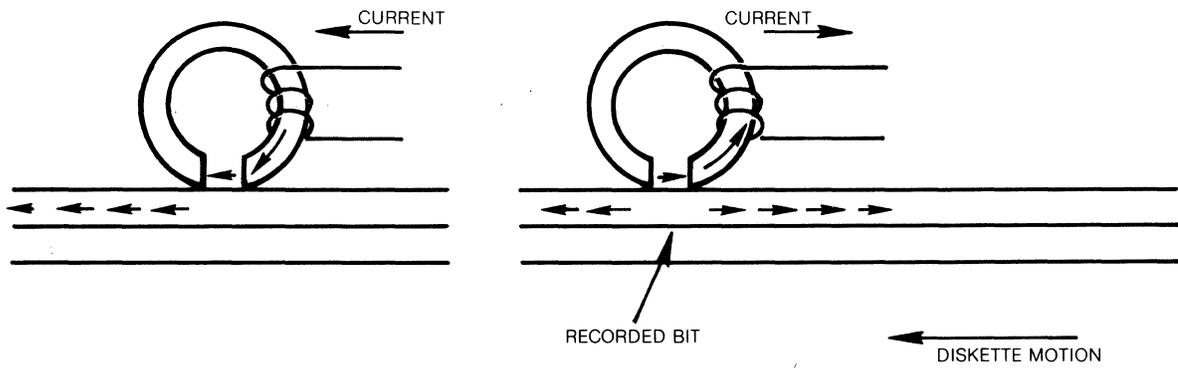

FIGURE 27. RECORDED BIT
1.4.3 During a write operation, a bit is recorded when the flux direction in the ring is reversed by rapidly reversing the current coil. The fringe flux is reversed in the gap and hence the portion of the flux flowing through the oxide recording surface is reversed. If the flux reversal is instantaneous in comparison to the motion of the diskette, it can be seen that the portion of the diskette surface that just passed under the gap is magnetized in one direction while the portion under the gap is magnetized in the opposite direction. This flux reversal represents a bit. See Figure 27.